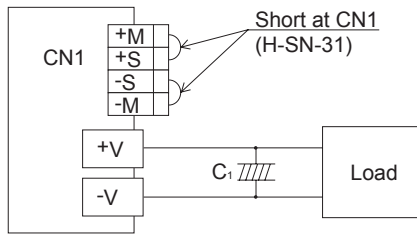
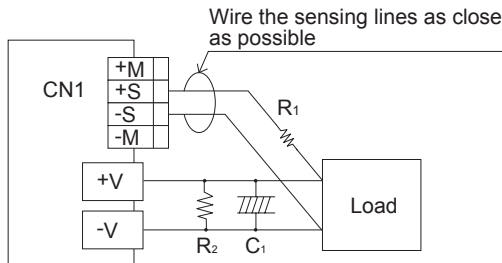

Fig.6.14 When not using remote sensing function
Fig.6.15 When using remote sensing function
- The wire connection when remote sensing is used or not used is shown in Fig. 6.14 - Fig. 6.15.
- ① Wiring must be done carefully. If there is bad connection on the load lines due to loose screws, etc., the load current flows into the sensing lines and the internal circuit of the power supply may be damaged.
- ② Make sure the wires between the load and the power supply are thick enough to keep the line drop less than 0.3V.
- ③ If the sensing wires are long, place C1 and R1 across the load lines.
- ④ Use a twisted pair wire or a shielded wire for the sensing lines.
- ⑤ Do not draw the output current from +M, -M, +S or -S.
- ⑥ The impedance of the wiring or the load may cause the output voltage to oscillate or fluctuate.